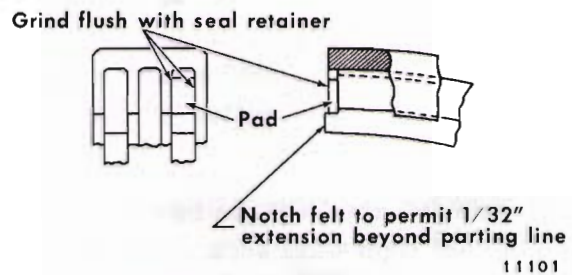
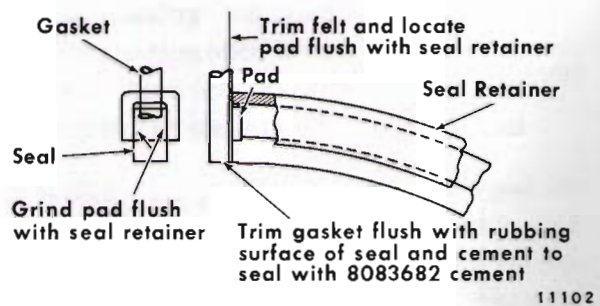

Fig. 3 - Motor Side - Axle Bore Seal Retainers
Fig. 4 - Wheel Side - Axle Bore Seal Retainers
2. New metal back felt seals should be installed and the felt trimmed as shown in Figs. 3, 4 and 9. A gasket cord 8310818 should be wedged into the parting line channel of the upper gear case, as shown in Fig. 4, and cemented at the ends using cement 8083682 or Permatex.